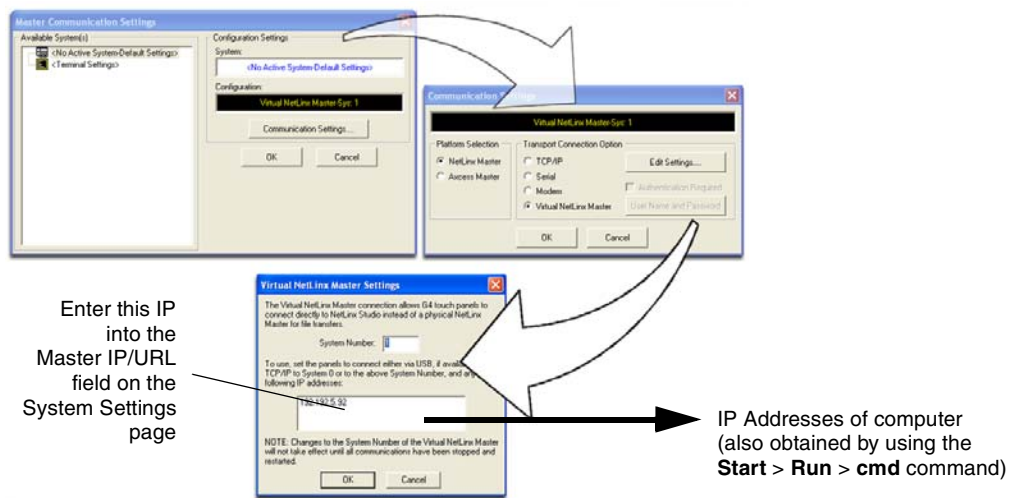

FIG. 85 Assigning Communication Settings and TCP/IP Settings for a Virtual Master
3. Select **Settings > Master Communication Settings**, from the Main menu to open the Master Communication Settings dialog (FIG. 85).
7. Click the **Edit Settings** button (*on the Communications Settings dialog*) to open the Virtual NetLinx Master Settings dialog (FIG. 85).